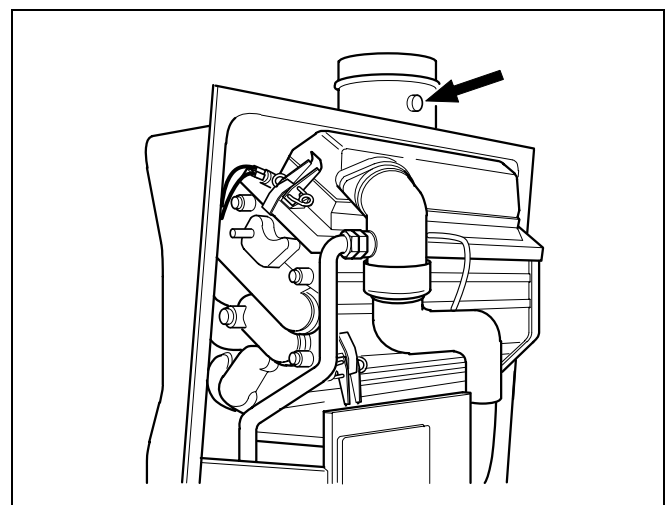

fig. 40 Flue gas measuring point
- Measure and record the CO₂ content on the flue gas measuring point (fig. 40).
Measuring point see fig. 40 on page 29.